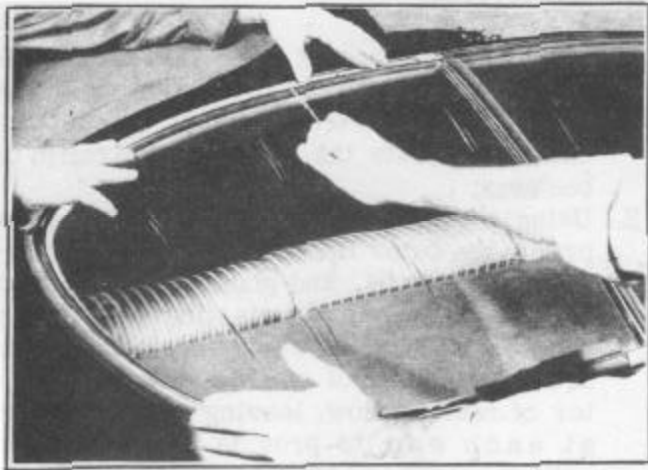

FIGURE 57
4. Have an assistant hold the moulding in place at the rear window, Figures 57 and 58 and press the moulding down and in toward glass while pulling the cord slowly at right angles to the reveal moulding, this will release and allow rubber lip of weather strip to enter into the reveal moulding recess.